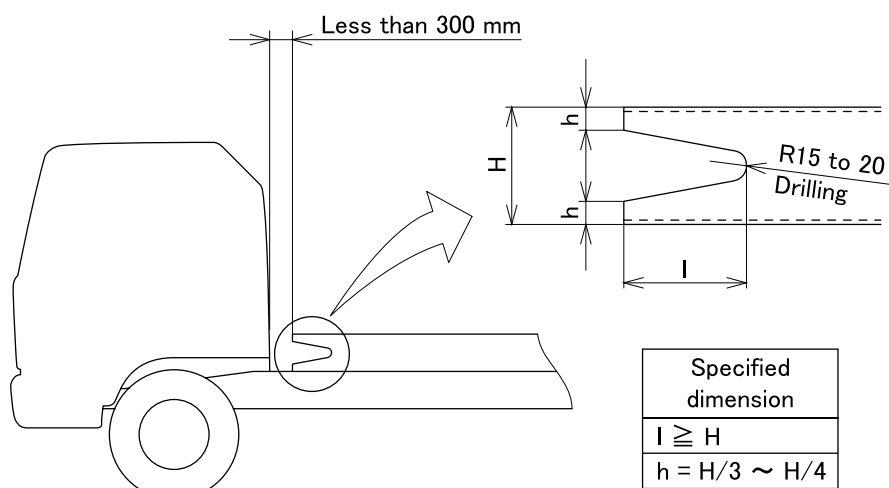
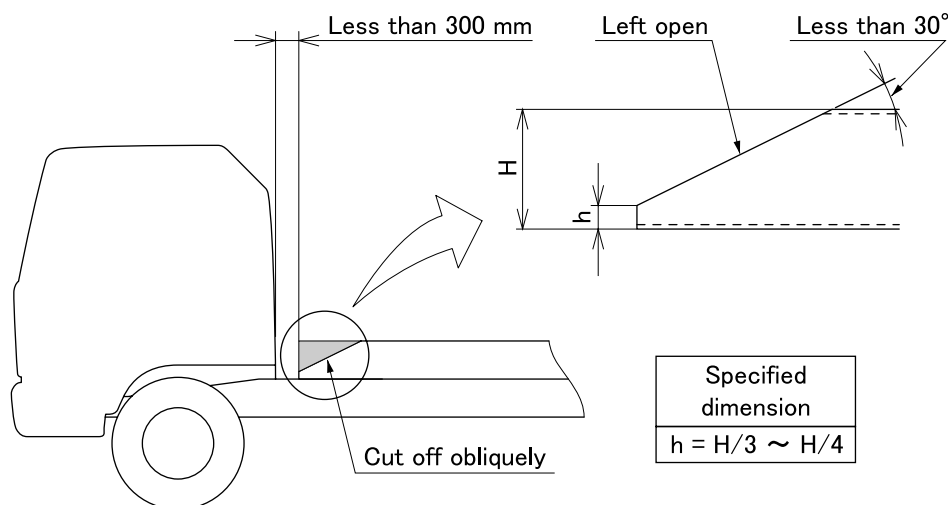
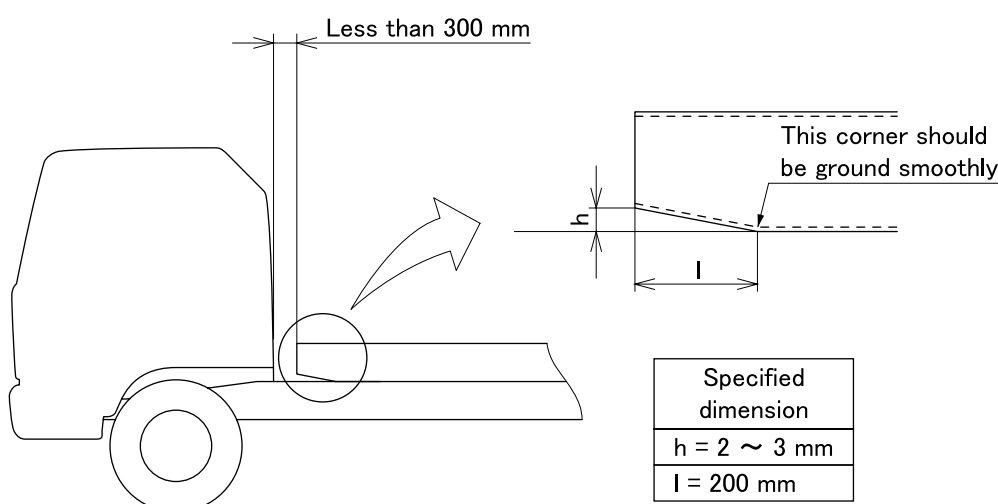

Fig. 2
Fig. 3
Fig. 4
- Install the mounting frame having the shape as shown in Fig. 2 to gradually reduce the stress concentrations in the front end.
- The shape of the mounting frame front end as shown in Fig. 2 is highly desirable. However, if there is enough room behind the cab, the shape as shown in Fig. 3 is also acceptable.
- If it is difficult to shape the front end of the mounting frame as described in Fig. 2 and Fig. 3, cut it to the shape as shown in Fig. 4 before installation.